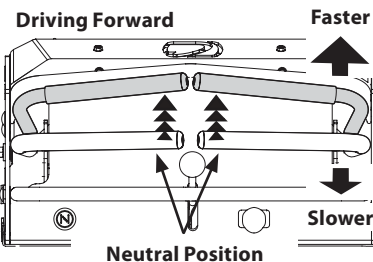

Figure 9
4. Slowly and evenly move both drive control levers forward. The mower will start to move forward. See Figure 9.